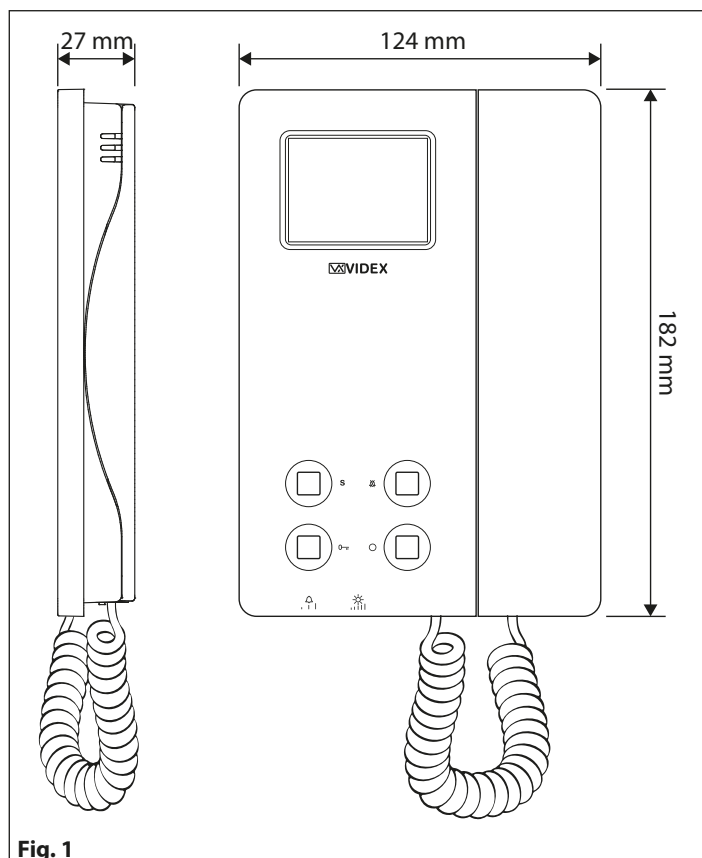
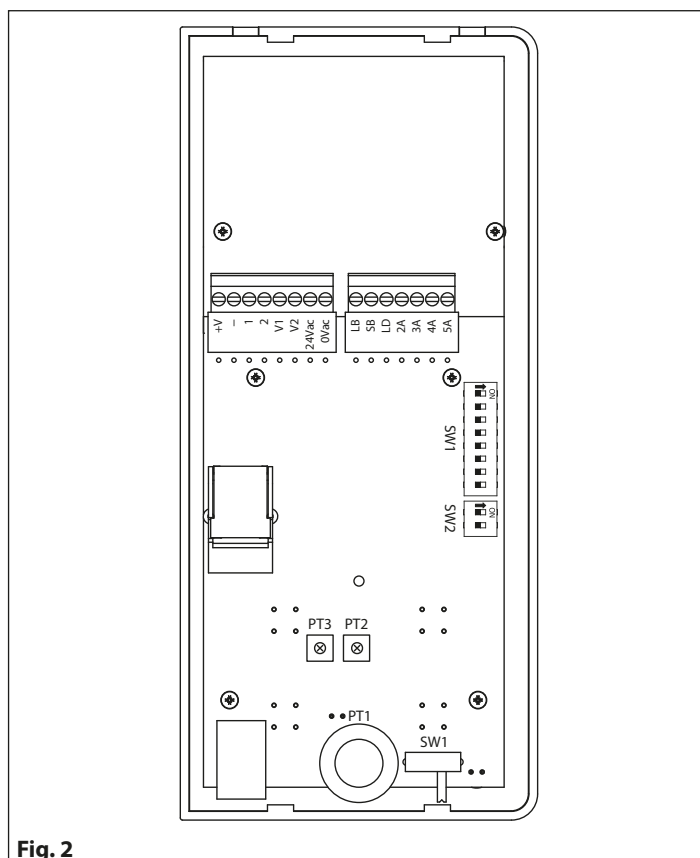

Fig. 1
Fig. 2
1. Embed the flush mounting box into the wall (160-170 cm between the top of the box and the floor level as shown on the **Fig. 1**) passing the cables (**Fig. 2**) through a previously opened hole in the box;